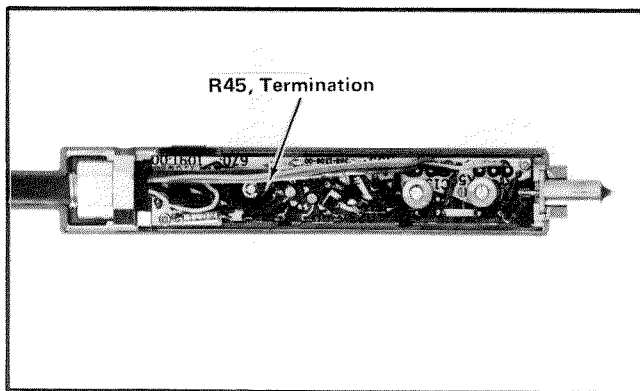

Fig. 5-7. Probe termination adjustment location, step 5.
(4) Insert the 7A11 fully into the Oscilloscope.
(5) Connect the Probe to the 50 Ω Termination/Adapter, 5X Attenuator, and Square Wave Generator.
(6) Permit 5 minutes warmup time before continuing.
(7) Adjust TERMINATION R45 (Fig. 5-7) for minimum discontinuity occurring approximately 25 ns after start of the step function. Switch the 10X Magnifier Off and On as necessary to best observe the adjustment results.
(8) Disconnect the 7A11 from the Oscilloscope connector.
(9) Disconnect the Probe from the 50 Ω Termination/Adapter and re-install the shield and cover.
(10) Insert the 7A11 fully into the Oscilloscope. Select 20 MHz Bandwidth at the 7A11 and switch the Time Base Multiplier to X1.